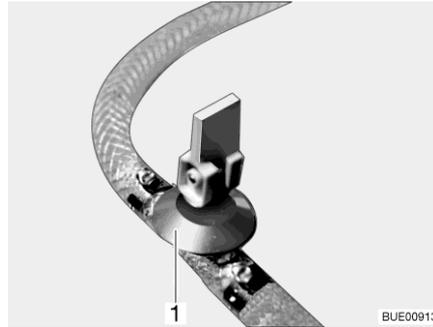
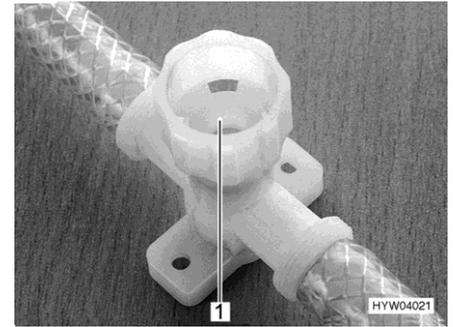

Fig. 256 Drain cock (with rocking lever)
Fig. 257 Drain cock (with twist cap)
- Open all drain cocks. To do this, position the drain cock's rocking lever (Fig. 256,1) vertically or turn the drain cock's cap (Fig. 257,1) in an anti-clockwise direction.